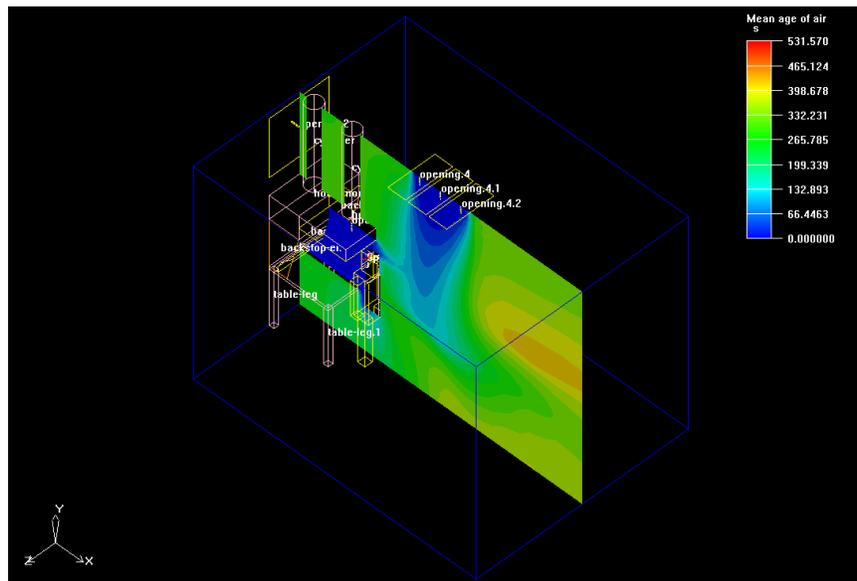

Figure 2.6: Mean Age of Air Contours in a Plane
*The graphics display will be updated to show the mean age of air contour plot, shown in Figure 2.6.*